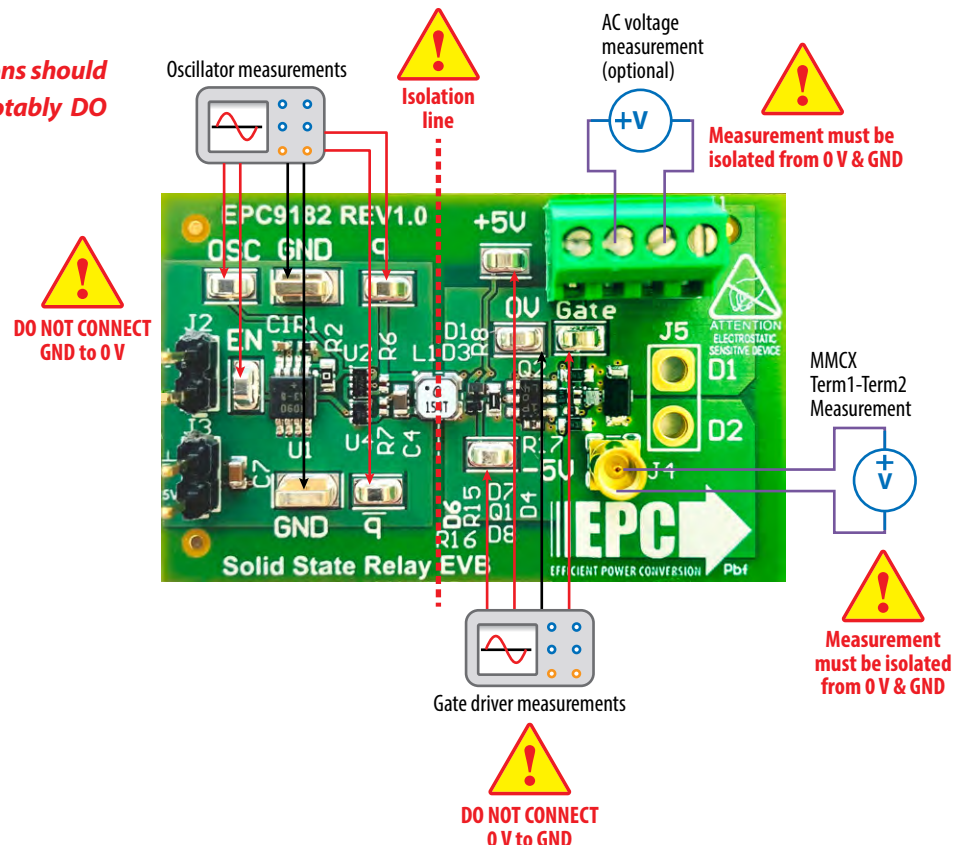

Figure 8: EPC9182 test point pad and hookup locations and designations
Figure 8 shows the various measurement connections of the EPC9182 evaluation board.
It is important to note that certain connections should not be made as highlighted in figure 8. Notably DO NOT connect GND to 0 V.
7. Take various measurements on the board as needed paying careful attention not to connect GND to 0 V as shown in figure 8.